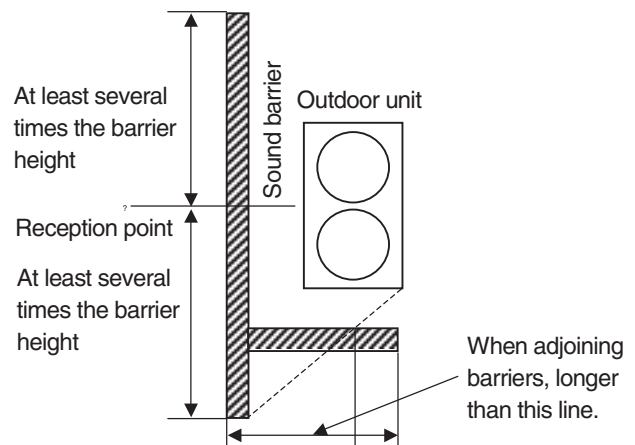

Figure 4. Sound barrier
- The width of the barrier should be at least several times the height, on both sides of the center. Where this is not possible, the barrier should bend around the unit as shown in Figure 4.